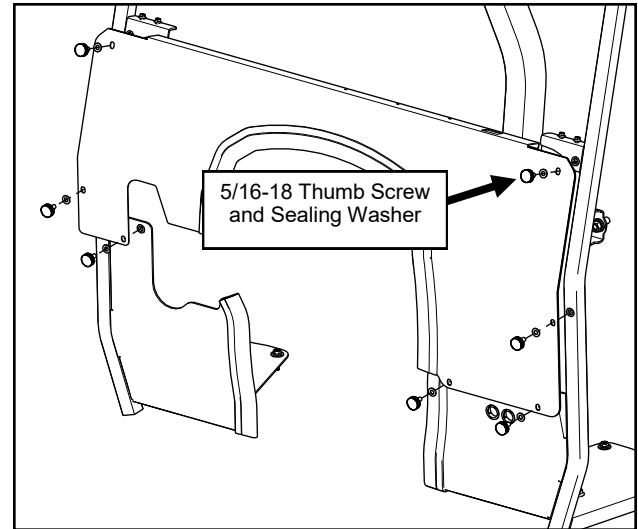

Fig. 6.1 (Install the Cowl)
6.1 Slide the cowl on and loosely secure it to the A-pillars with sealing washers on all the thumb screws. See Figure 6.1. Make sure the rubber seal folds BACK in towards the rear of the tractor.